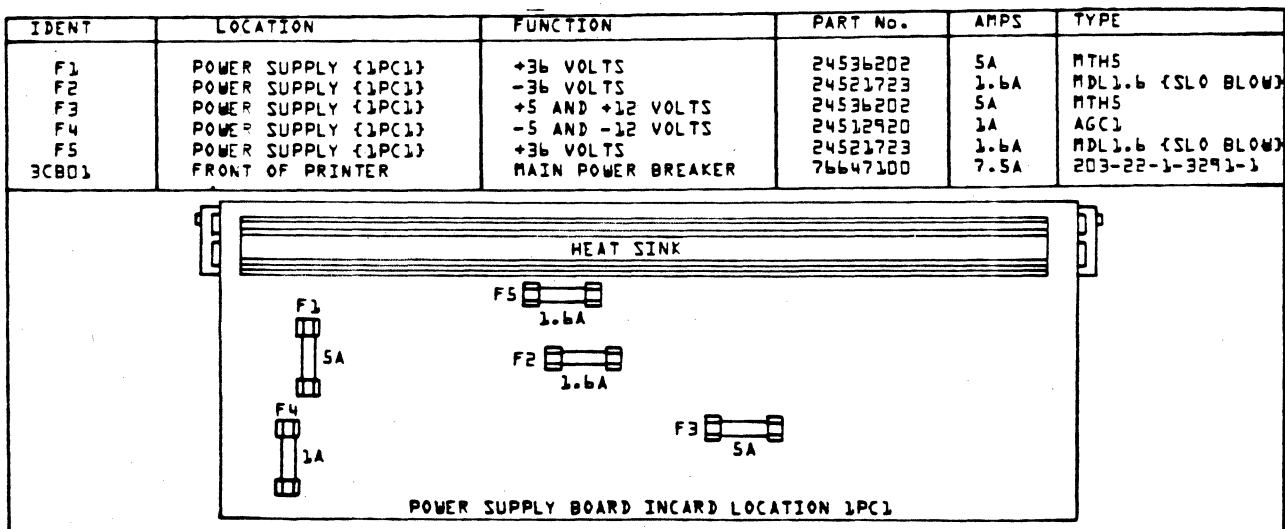

Figure 70-10. Fuses on Power Supply Board
- a) Refer to figure 70-10 and verify all its fuses are in place.